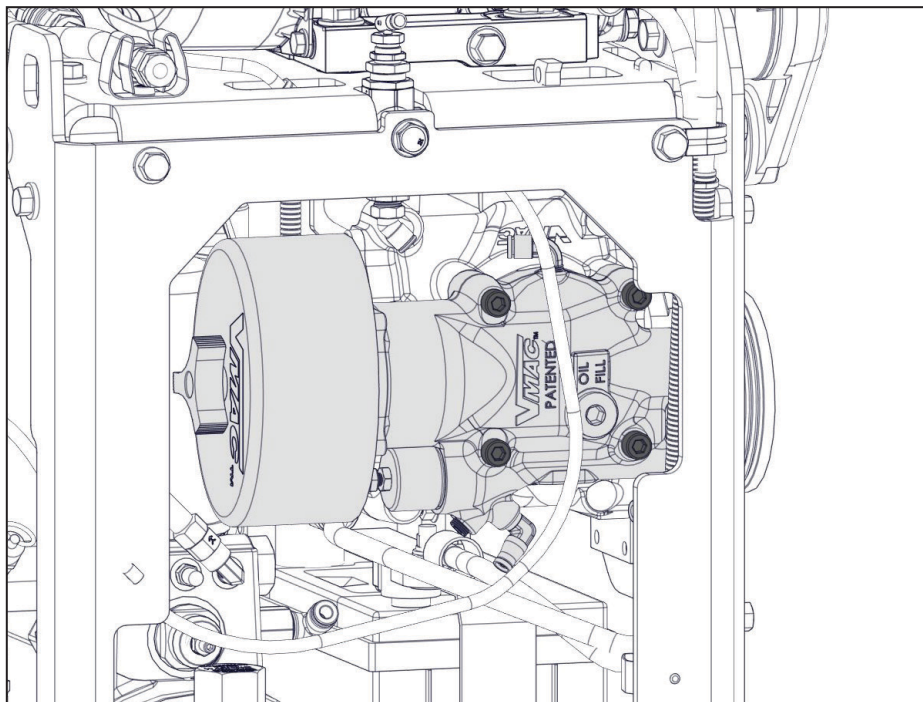

Figure 70 — Inlet valve fasteners
Installing the inlet bolts in the wrong location could severely damage the compressor (Figure 70).
- ☐ Remove the (×4) socket head bolts securing the inlet valve to the compressor (Figure 70).